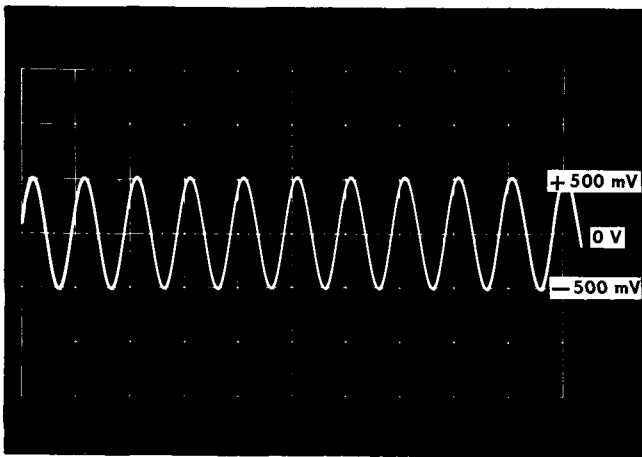

Fig. 5-5. Dynamic range of P6042, test oscilloscope set to 0.5 V/div.
- e. Increase the signal generator Amplitude until waveform distortion occurs. Check for an undistorted dynamic range of at least + and -1 cm (\geq + and -500 mV at probe amplifier output). See Fig. 5-5.